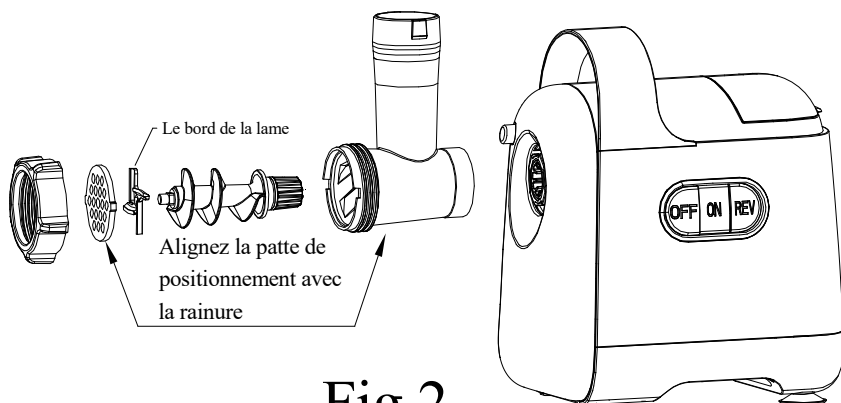

Fig 2
2. Assemble the ream meat rod, blade, blade disk and lock nut as illustrated as figure (see fig.2) before ream meat tube.and the appliance can be used now.